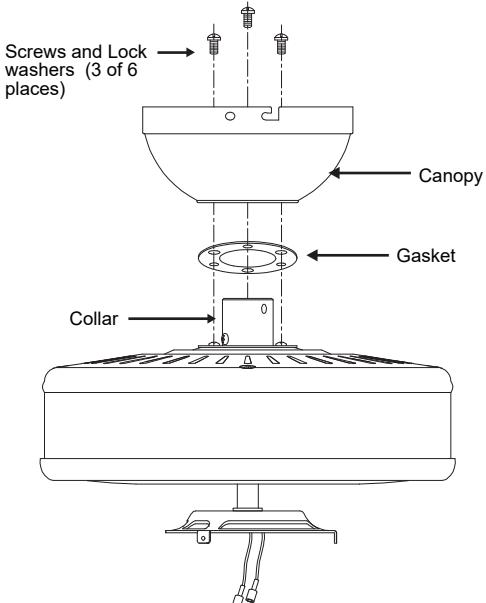

Fig. 8
**Step 3.** Remove three of the six screws and lock washers (every other one) from the collar of top motor (**Fig. 8**)
**Step 4.** Place the ceiling canopy and the gasket over the collar at the top of the motor. Align the mounting holes with the holes in the motor and fasten using the screws and lock washers provided (**Fig. 8**).
**Step 5.** Tighten the mounting screws securely (**Fig. 8**).